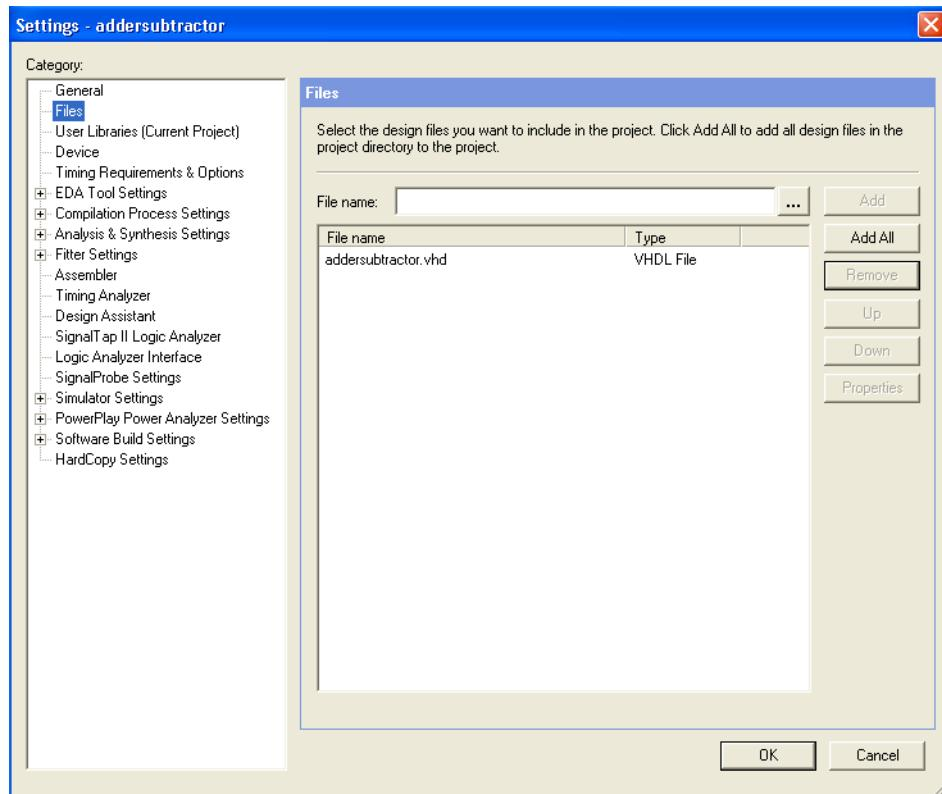
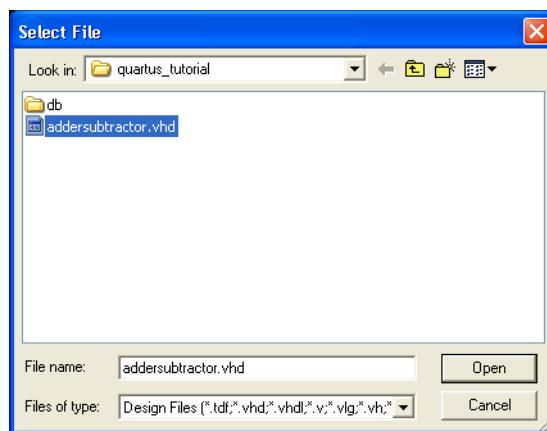

Figure 16: Settings window.
Figure 17: Select the file.
As we indicated when discussing Figure 6, you can tell the Quartus II software which design files it should use as part of the current project. To see the list of files already included in the *addersubtractor* project, select **Assignments > Settings**, which leads to the window in Figure 16. As indicated on the left side of the figure, click on the item **Files**. An alternative way of making this selection is to choose **Project > Add/Remove Files in Project**.
If you used the Quartus II Text Editor to create the file and checked the box labeled **Add file to current project**, as described in Section 3.1, then the *addersubtractor.vhd* file is already a part of the project and will be listed in the window in Figure 16. Otherwise, the file must be added to the project.
2. To add this file to the project, click on the **File name: ...** button in Figure 16 to get the pop-up window in Figure 17.
3. Select the *addersubtractor.vhd* file and click **Open**. The selected file is now indicated in the Files window of Figure 16. Click **OK** to include the *addersubtractor.vhd* file in the project.